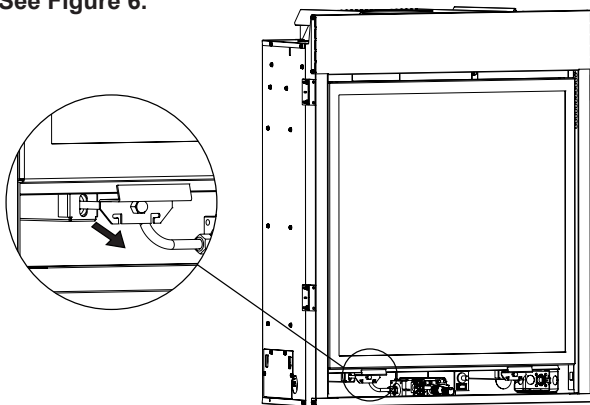

Figure 6
2. Undo two latches at the bottom of the firebox assembly. **See Figure 6.**
22. Secure the glass frame with the latches at the bottom of the fireplace. **See Figure 6.**